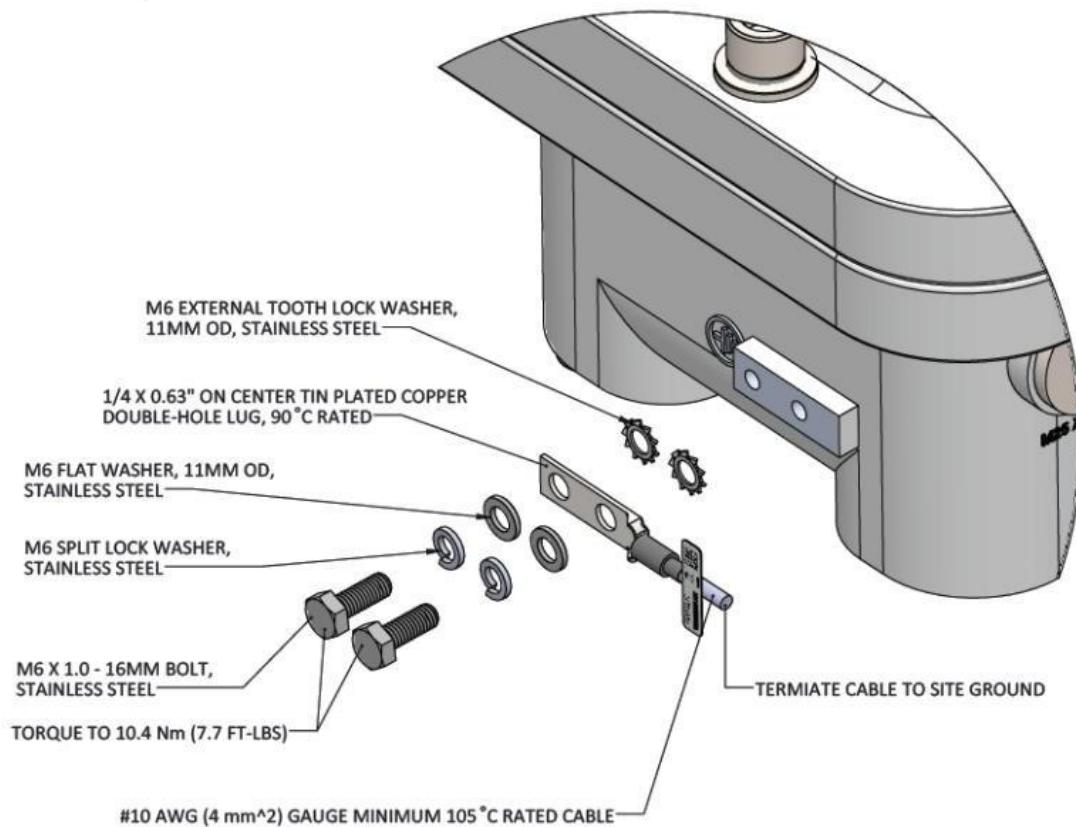

Figure 9: KONA Macro Ex Gateway PE Ground Installation
4. Install the ground cable through its double hole lug onto the chassis ground point using the two supplied M6 x 1.0 – 16 mm bolts with flat and star lock washers, torqued to 10.4 Nm (7.7 ft-lbs) (see Figure 9).